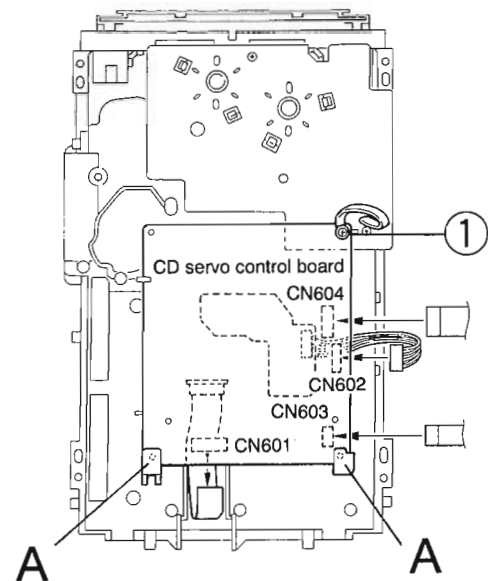

Fig.3-35
■ Removing the CD Servo control board (See Fig.3-35)
3. From bottom side the CD Traverse mechanism assembly,remove the one screw ① retaining the CD Servo control board.